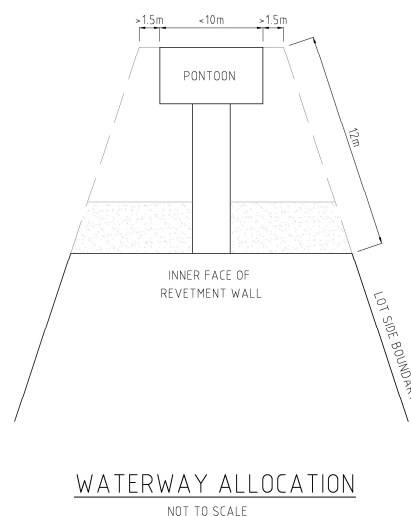

Figure 1 – Waterway Allocation
3. Pontoons are to be wholly located within the waterway allocation of the lot. The waterway allocation is illustrated in figure 1. The waterway allocation extends 12m from the revetment wall, measured as an extension of the lot's side boundaries. The outside edge of the pontoon is to be no less than 1.5m from the side boundary of the waterway allocation.